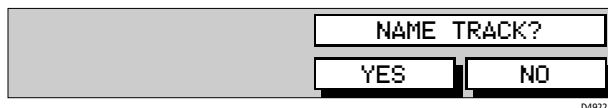

Figure 3-45: Name Track Soft Keys
3. Press **SAVE TRACK**. The Name Track soft keys are displayed as shown in *Figure 3-45*.